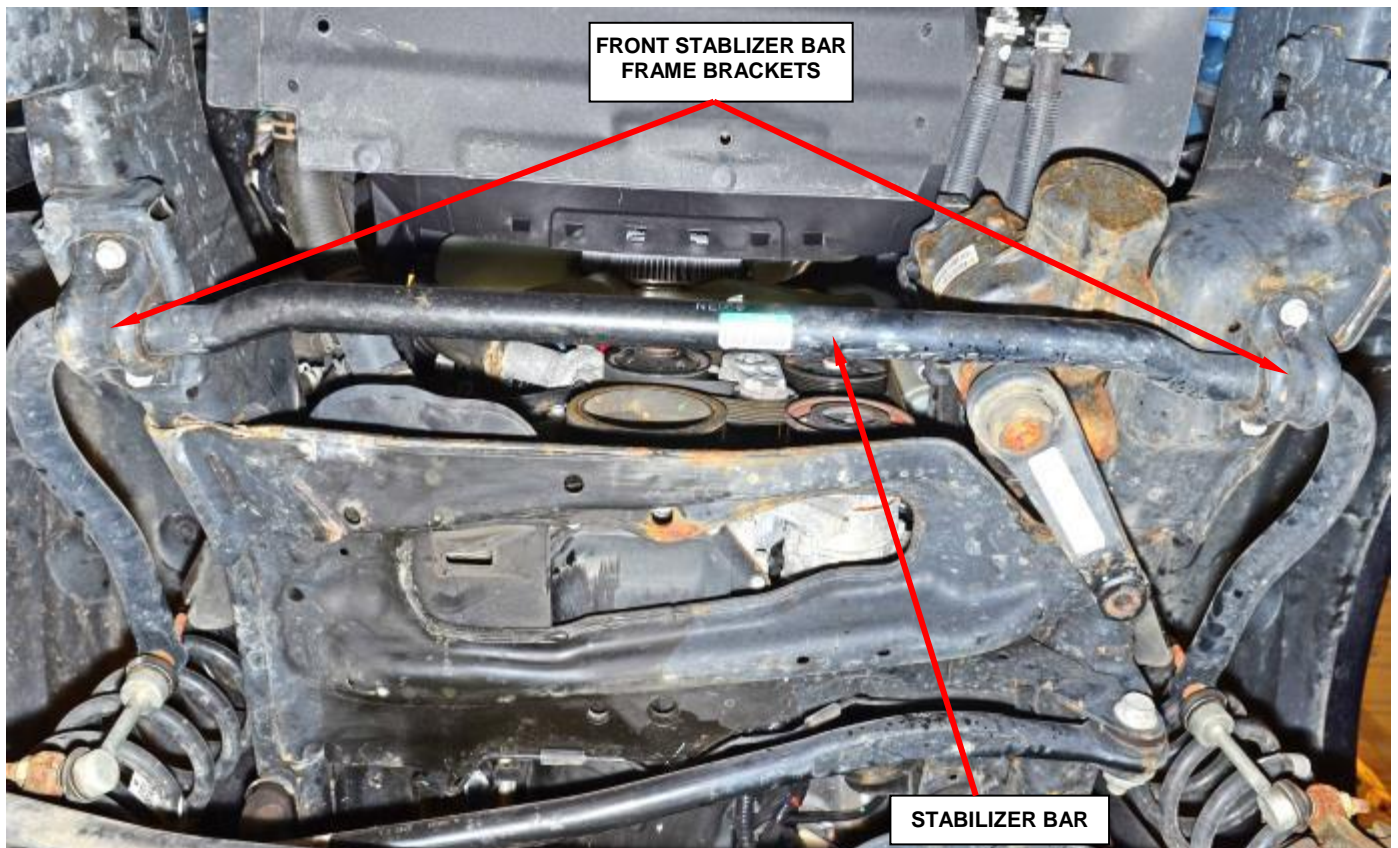

Figure 9 – Front Stabilizer Bar
17. Disconnect the front suspension stabilizer bar at the frame brackets (Figure 9).